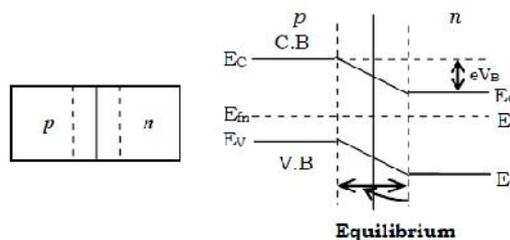

Figure 1
**Unbiased:** The energy band picture of an unbiased diode is as shown in **figure 1**.